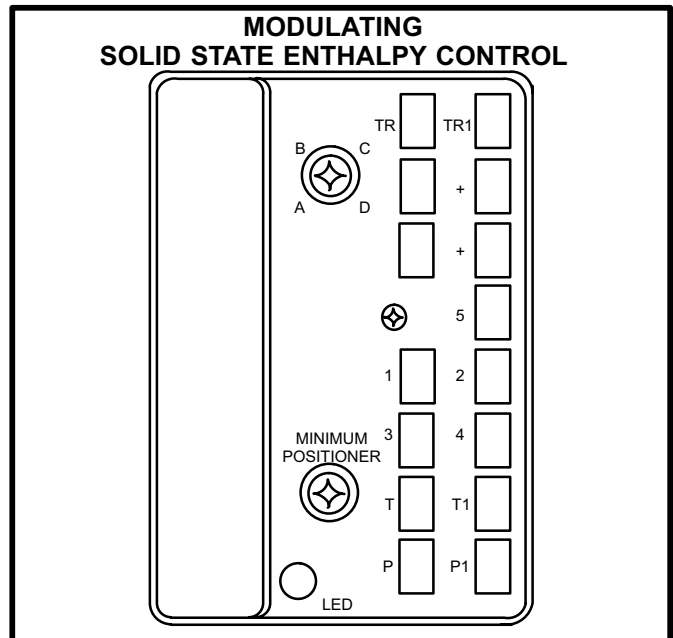

FIGURE 39
- 2- Install jumper across contactor K3-2 terminals (see unit diagram) in unit control box. Install jumper across enthalpy control terminals T and T1. See figure 39 for terminal location.
- 5- Remove T and T1 jumper then restore power to unit. Outdoor damper should drive to minimum position. Adjust minimum damper position pot located on control. See figure 39.